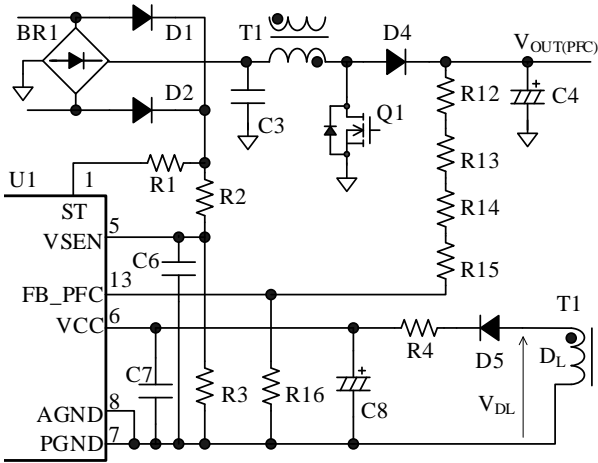
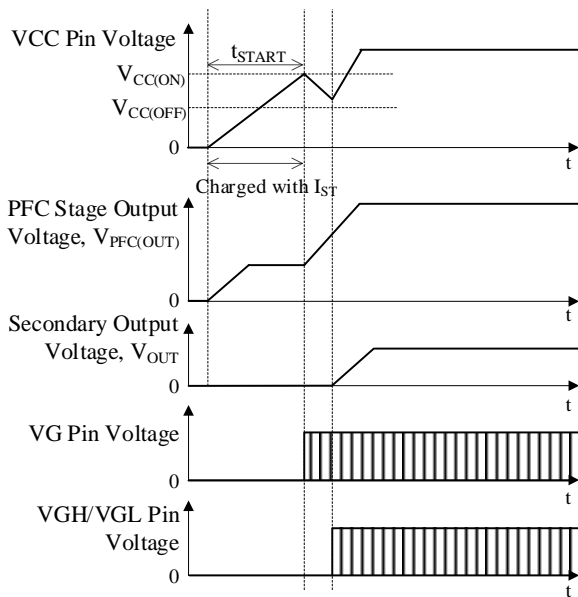

Figure 9-7. ST and VCC Pins and Their Peripheral Circuit
Figure 9-8. Operational Waveforms at Startup
Figure 9-7 shows the ST and VCC pins and their peripheral circuit. Figure 9-8 shows the operation waveforms during the startup.
After the LLC stage starts switching operation, a voltage to be applied on the VCC pin is the rectified auxiliary winding voltage, V_{DL} , as shown in Figure 9-7. After the power startup sequence ends, the startup circuit turns off automatically to eliminate the power dissipation by itself.
t_{START} is a period of time until the PFC stage starts operating (see Figure 9-8), and is determined by the capacitance of C8. The approximate startup time, t_{START} , can be calculated by Equation (2) below: The capacitance of C8 must be set to $\geq 47\text{ }\mu\text{F}$.